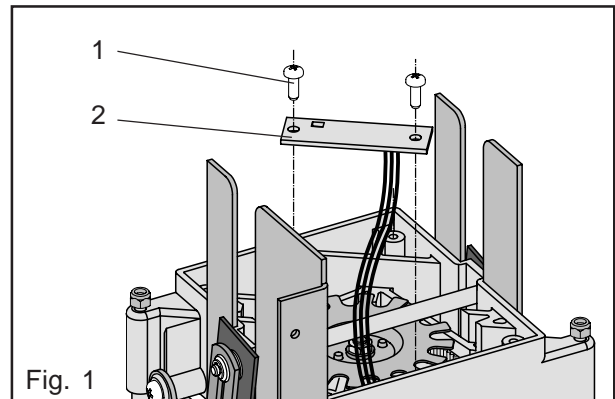

Fig. 1
- Remove the retaining rings (1) and the washers (2) on both sides. (Fig. 1)
- Carefully remove the axle (3), first from the scraper arms and then from the housing. (Fig. 1)
- Remove the hexagonal nut and the washer (4). (Fig. 1)